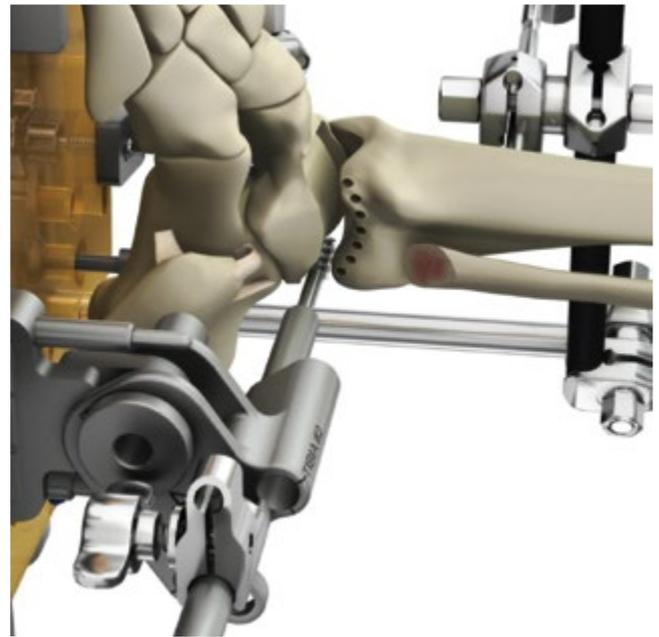

Fig. 55
- Repeat until the 5 mm Spacer contacts the Cutting Guide (Fig. 55).